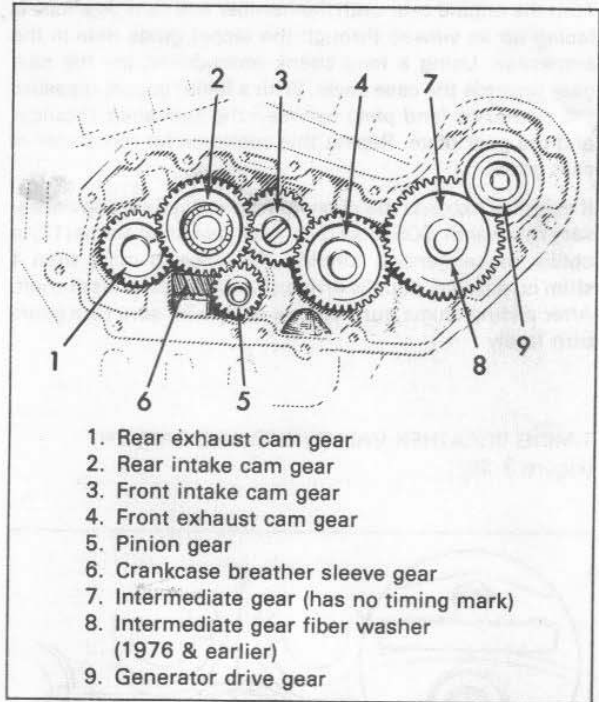

Figure 3-38. Timing Gears
INSTALLING CAM GEARS AND GEARCASE COVER (Figure 3-38)
Lubricate cam gear shafts and position in crankcase with marks on gears 1, 2, 3, 4 and 5 in alignment as shown under Figure 3-38. Install idler gear (7) in crankcase with fiber washer (8) toward the cover side.